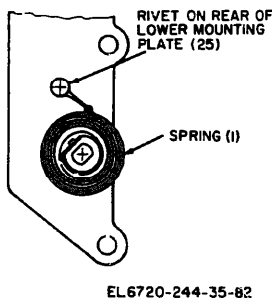

Figure 5-16. Spring location (spring (1) from fig. 3-9).
See figure 5-16 for spring location. Refer to paragraph 4-5e (1) (b) for installation.